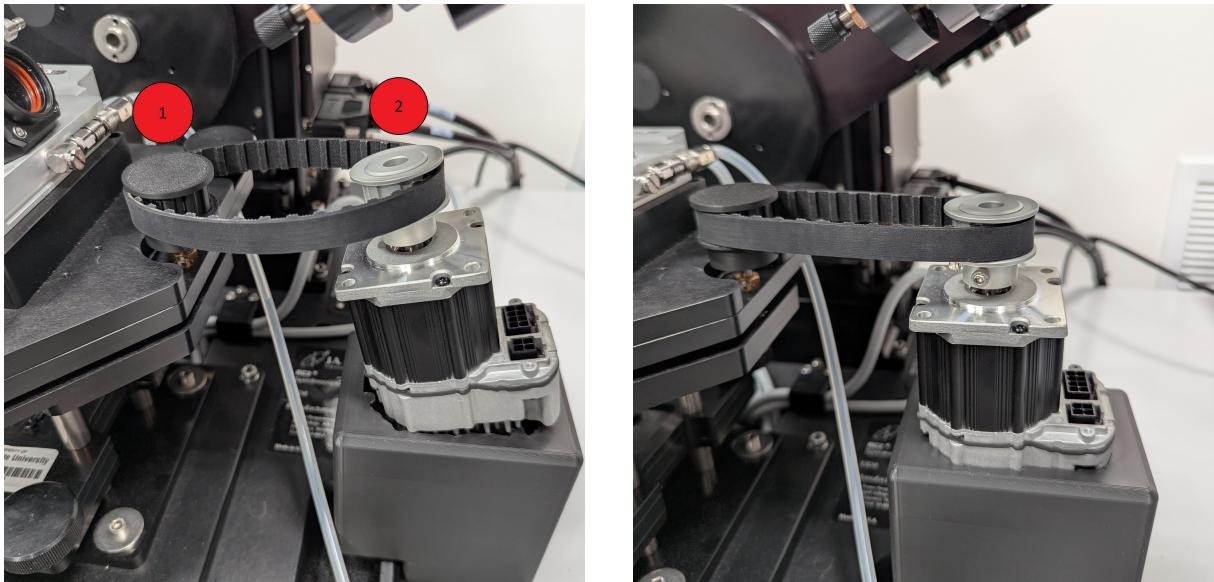

Figure 7: Belt Installation
8. Attach the belt to the adjustment knobs first [1], then place the belt over the motor's drive shaft [2]. Gently ease the motor into the cutouts of the motor mounts. At this stage, the belts should be under tension, and the motors should be securely positioned. See Figure 7